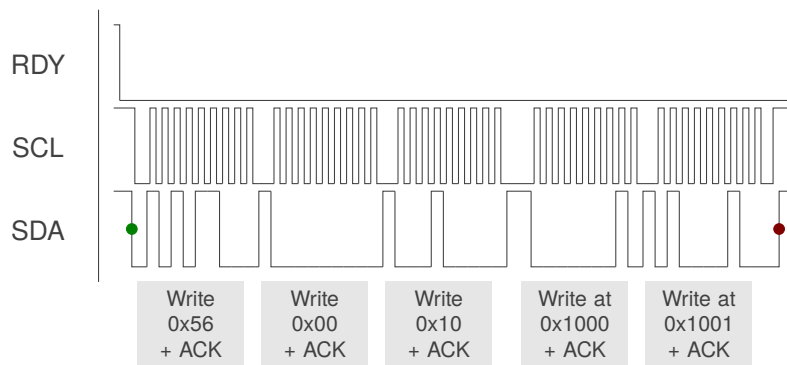

Figure 10.2: I2C Write Example — Write Two Bytes to System Control Registers 0x1000 and 0x1001
The write operation is displayed in Figure 10.2. Similar to the read transaction, when the RDY interrupt is triggered, the master initiates communication by sending a start condition followed by the device address and a write command. The IQS396 responds with an acknowledgement, after which the master device transmits two bytes defining the register address. The slave acknowledges the register address bytes. The master may then write a series of bytes to the register address and the addresses that follow, with each byte being acknowledged by the slave. The write operation is ended when the master produces a stop condition.
- > Write the new values back over I2C, as shown in Figure 10.2.